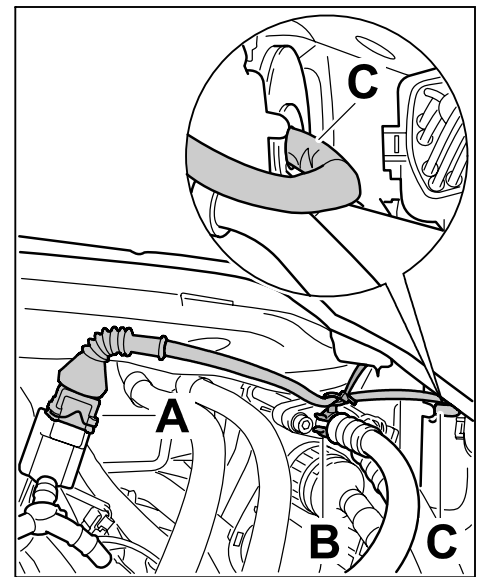

Figure 10
- 5.2.1 Connect 2-pin plug connection (⇒ *Figure 10 -A-*) to electric change-over valve and clip in cable clip (⇒ *Figure 10 -B-*) on refrigerant line flange.
- 5.2.2 Make a hole in the grommet (⇒ *Figure 10 -inset-*) in the passenger compartment end plate (right engine compartment).
- 5.2.4 Route electric wire harness (⇒ *Figure 10 -C-*) from the engine compartment through the grommet into the passenger compartment to the DME control unit.